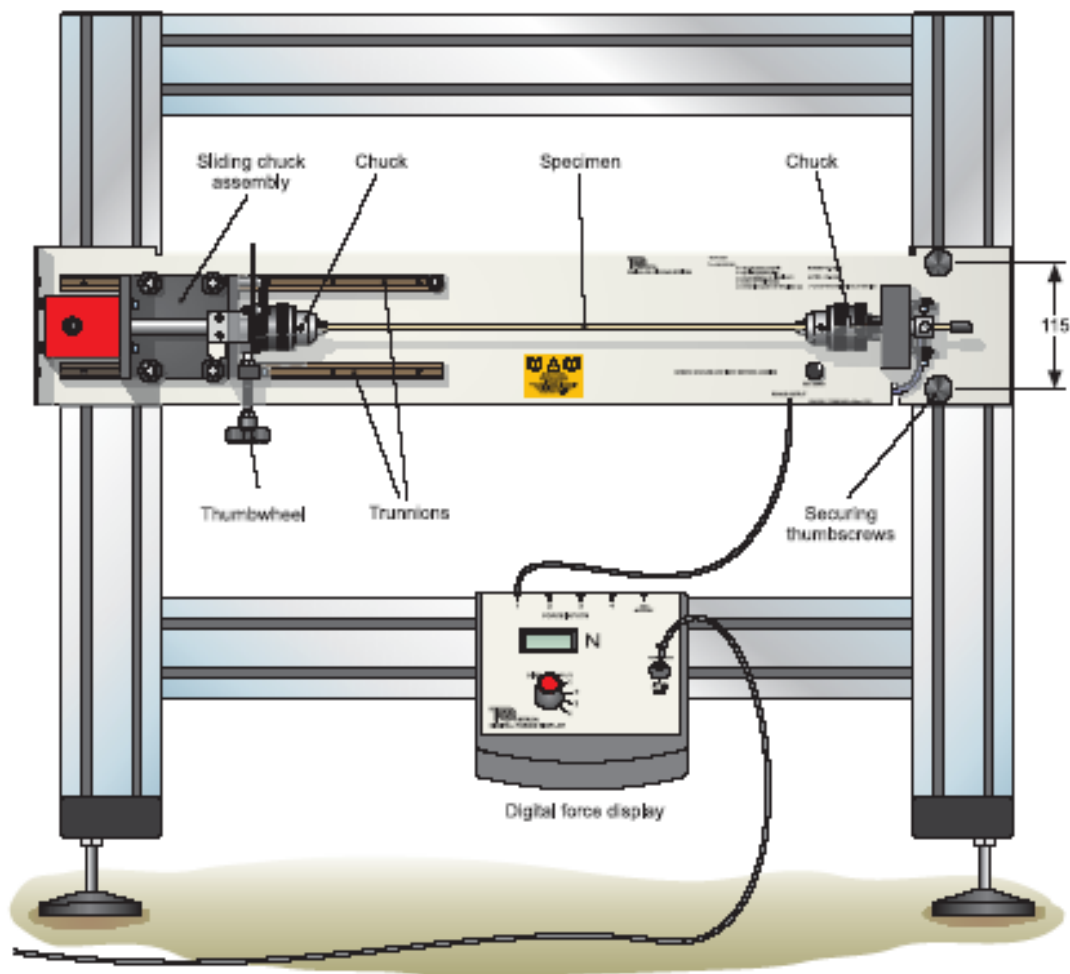

Figure 2 Torsion of circular sections in the structures frame
The Torsion of Circular Sections experiment fits into a Test Frame. Figure 2 shows the Torsion of circular sections experiment assembled in the Frame.
2. There are two securing nuts in each of the side members of the frame (on the inner track). Move one to the outer track (see STR1 instruction sheet) then slide them to approximately the positions shown by the thumbscrews in Figure 2.